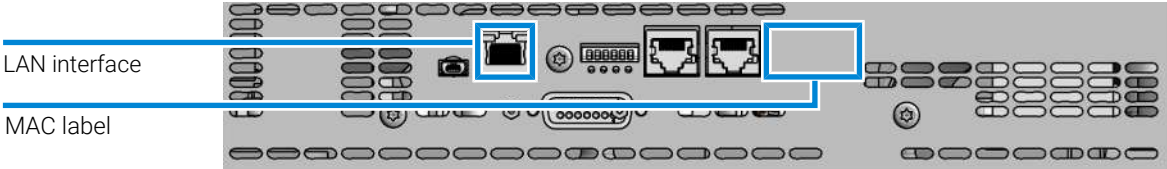

Figure 53: Location of LAN interfaces and MAC label
- 1 Note the MAC (Media Access Control) address for further reference. The MAC or hardware address of the LAN interfaces is a world wide unique identifier. No other network device will have the same hardware address. The MAC address can be found on a label at the rear of the module underneath the configuration switch (see Figure 53 on page 236).